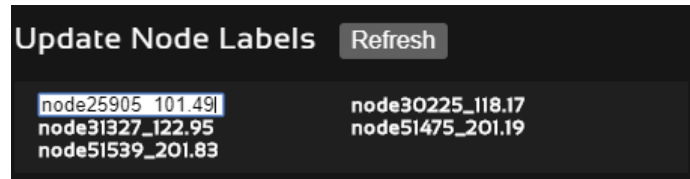

Figure 48 Custom Node Naming
- **Update Node Labels** – Naming each node in the network is as simple as double-clicking on the node name and typing in a new name in the update node label section of the control panel as shown in **Figure 48 Custom Node Naming**. Once this is done, the user will need to hit enter to keep the node name. Otherwise it will change back to what it was. This feature enables quick